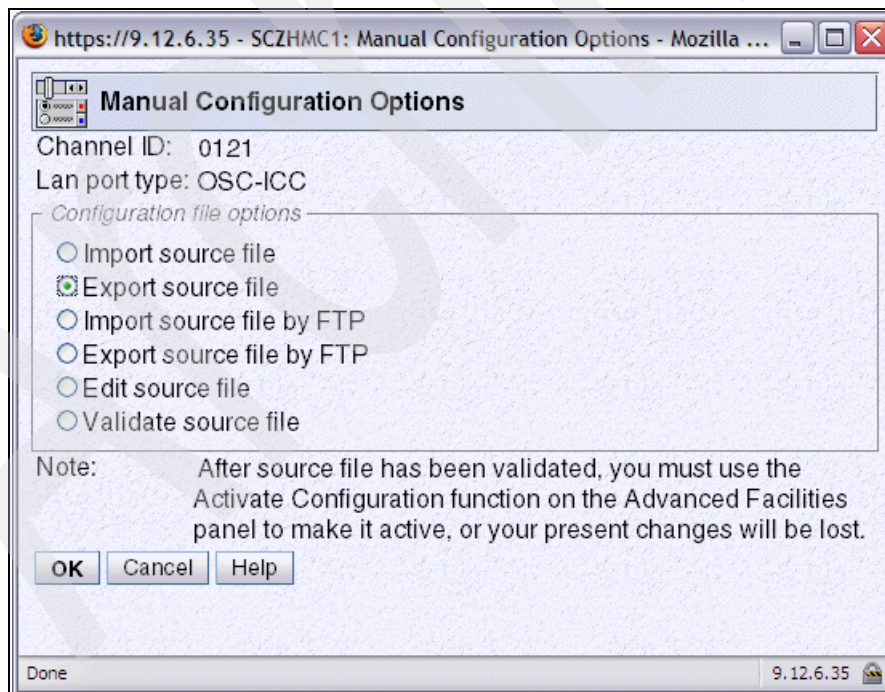

Figure 3-30 HMC - OSA Advanced Facilities (Export source)
7. Select the radio button **Export source file** and click **OK** (Figure 3-30).